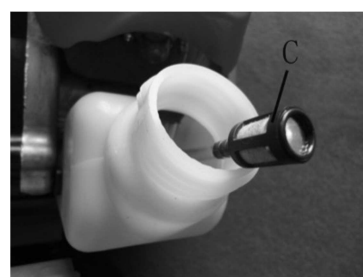

Fig.21
2. Pull off fuel filter(C) with a twisting motion.(Fig.21)
3. Replace fuel filter.(Fig.21)